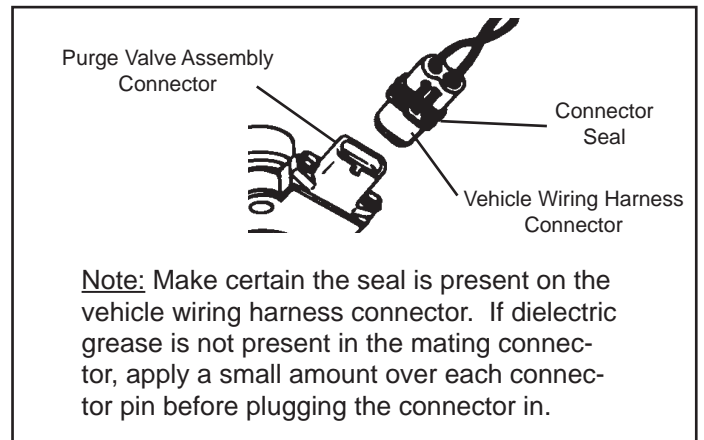

Figure 3 Purge Valve Assembly & Wiring Harness Connectors
4. Reconnect the vehicle wiring harness connector to the AD-9® air dryer heater and thermostat assembly connector by plugging it into the air dryer connector until the lock tab snaps in place. (Refer to Figure 3 and read all notes.)
A. Electric Power to the Dryer (Refer to Figure 3.)